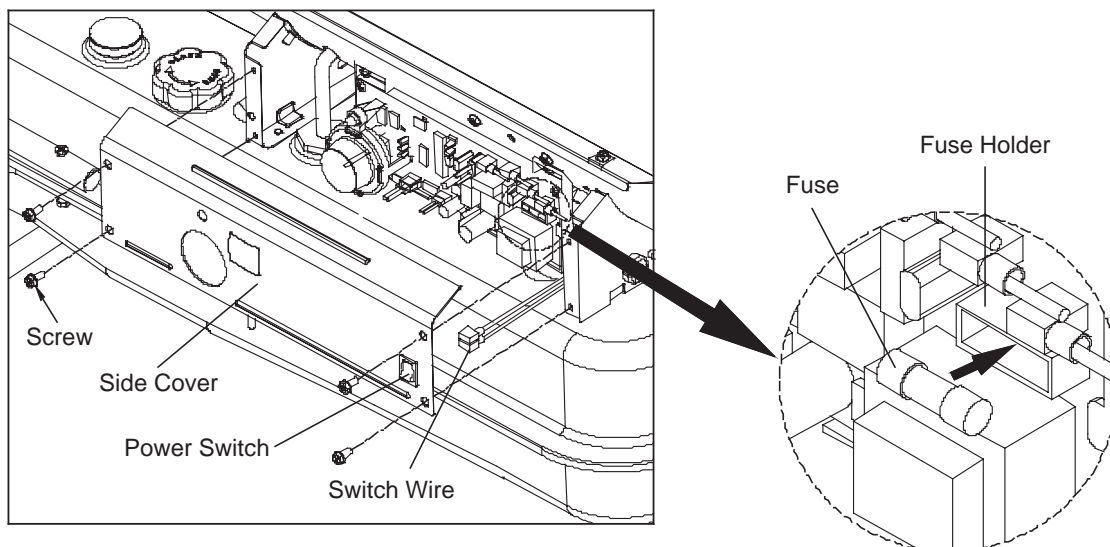

Figure 21. Replacing Fuse
4. Remove fuse from fuse holder.(See Figure 21.)